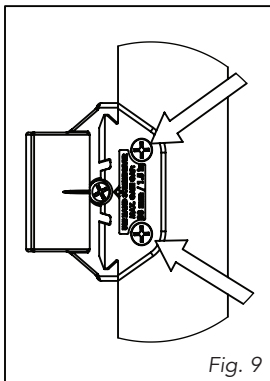

Fig. 9
- Secure keeper assembly to gate in this position using (2) Flat head screws as shown in (Fig.9).